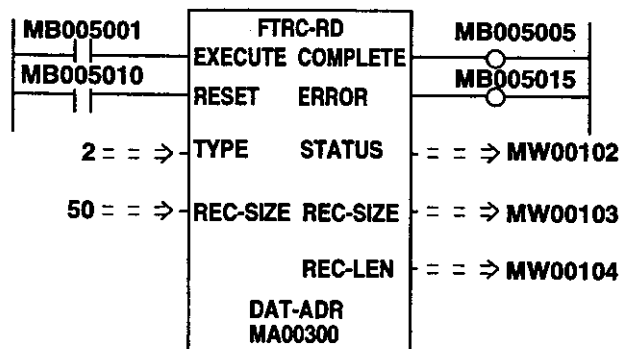
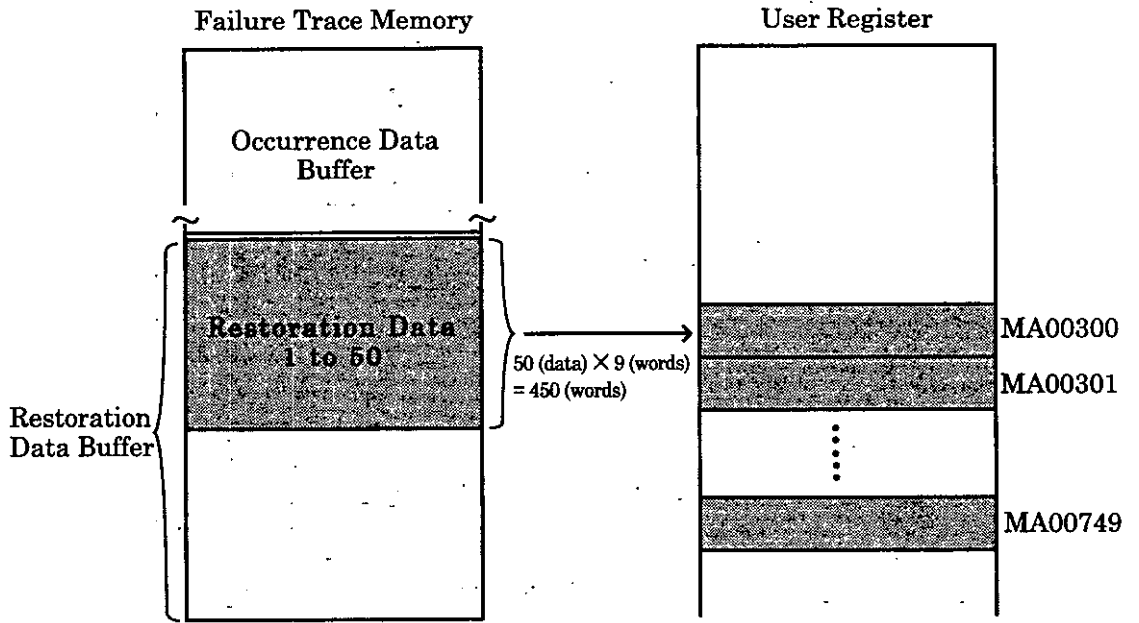

Fig. 9.10 Definition Example of "FTRC-RD"
Fig. 9.11 Readout of Failure Trace Data
- When "MB005001 = ON" and "MB005010 = OFF" for the example in Fig. 9.10, the process will be as shown in Fig. 9.11.